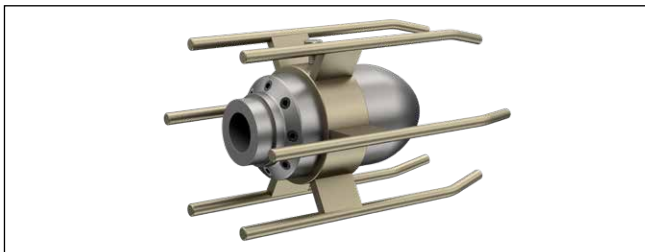

Fig. 76: Cleaning nozzle with swabbing sleds
- Jetting/swabbing sleds with several runners give a greater distance between the nozzle and the pipe wall, resulting in a less aggressive cleaning (Fig. 76).
- Jetting/swabbing sleds with several runners that give a greater distance between the nozzle and the pipe wall are required (see Fig. 76).